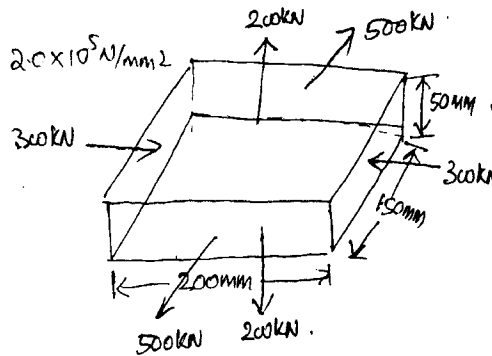

Fig. Q4(c)
c. A rectangular block $200 \text{ mm} \times 150 \text{ mm} \times 50 \text{ mm}$ is subjected to axial load as shown in Fig. Q4(c). Find the change in volume if $\mu = 0.35$ and $E = 2.0 \times 10^5 \text{ N/mm}^2$. (07 Marks)